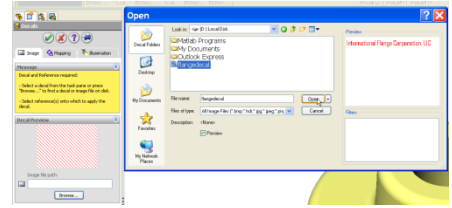

Figure 21
**Start the SolidWorks program, and open the flange model. Rotate the model into the position shown in Figure 21, and select the surface shown.**